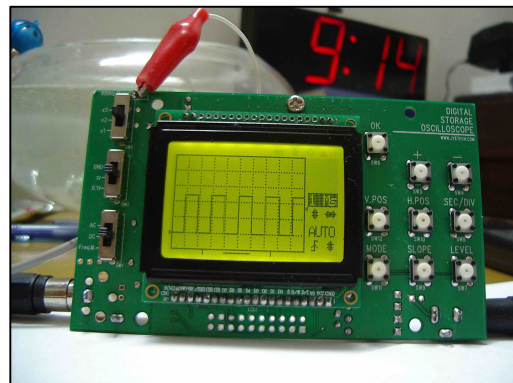

Fig. 3
- 2) Connect the red clamp to the test signal terminal locates at top-left corner of the panel, as shown in Fig. 3.
- 5) Press [V.POS] button, adjust 0V indicator to the second last vertical scale as shown in Fig. 3.
- 7) Set Y sensitivity switch 2 (to top one) to X2 position. Waveform similar to that shown in Fig. 3 should be seen.